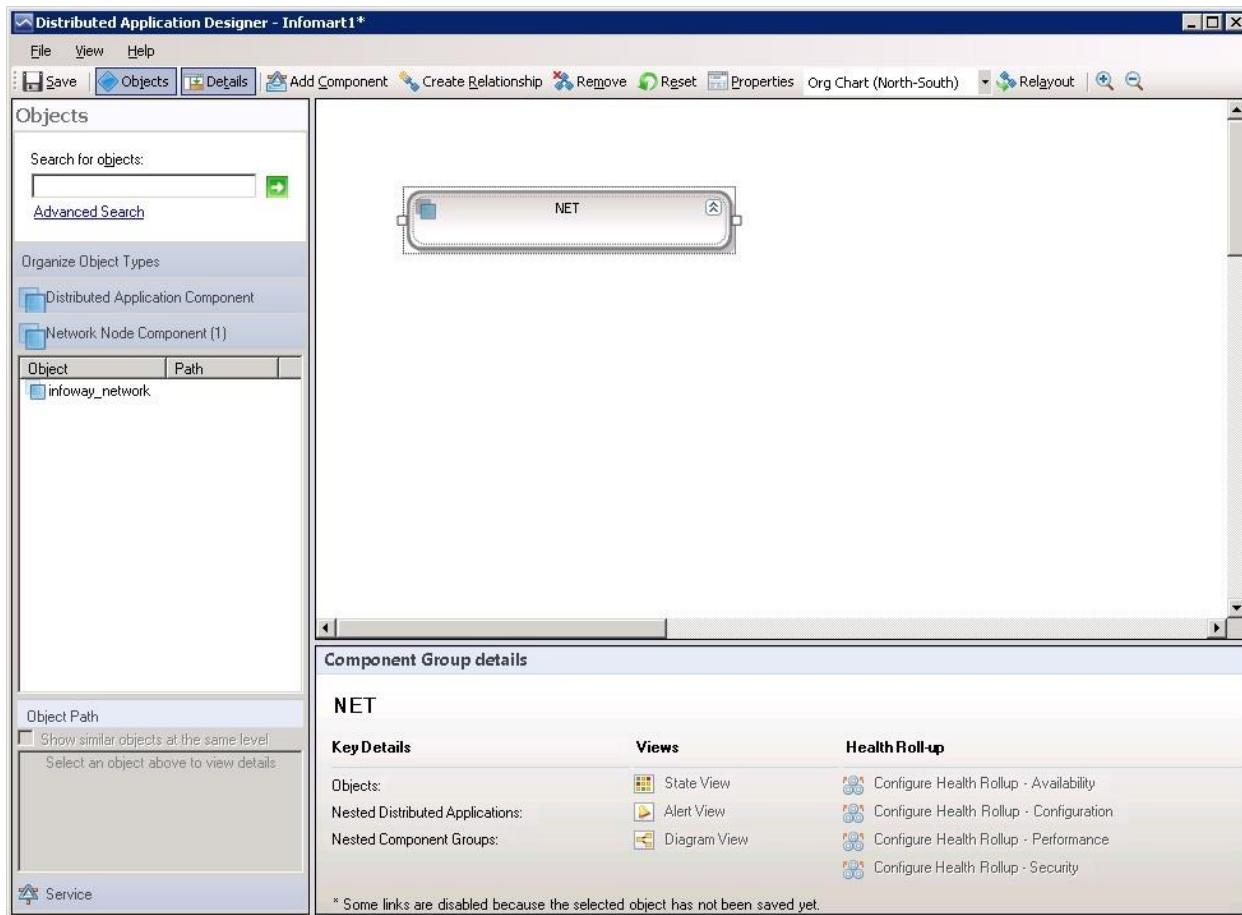
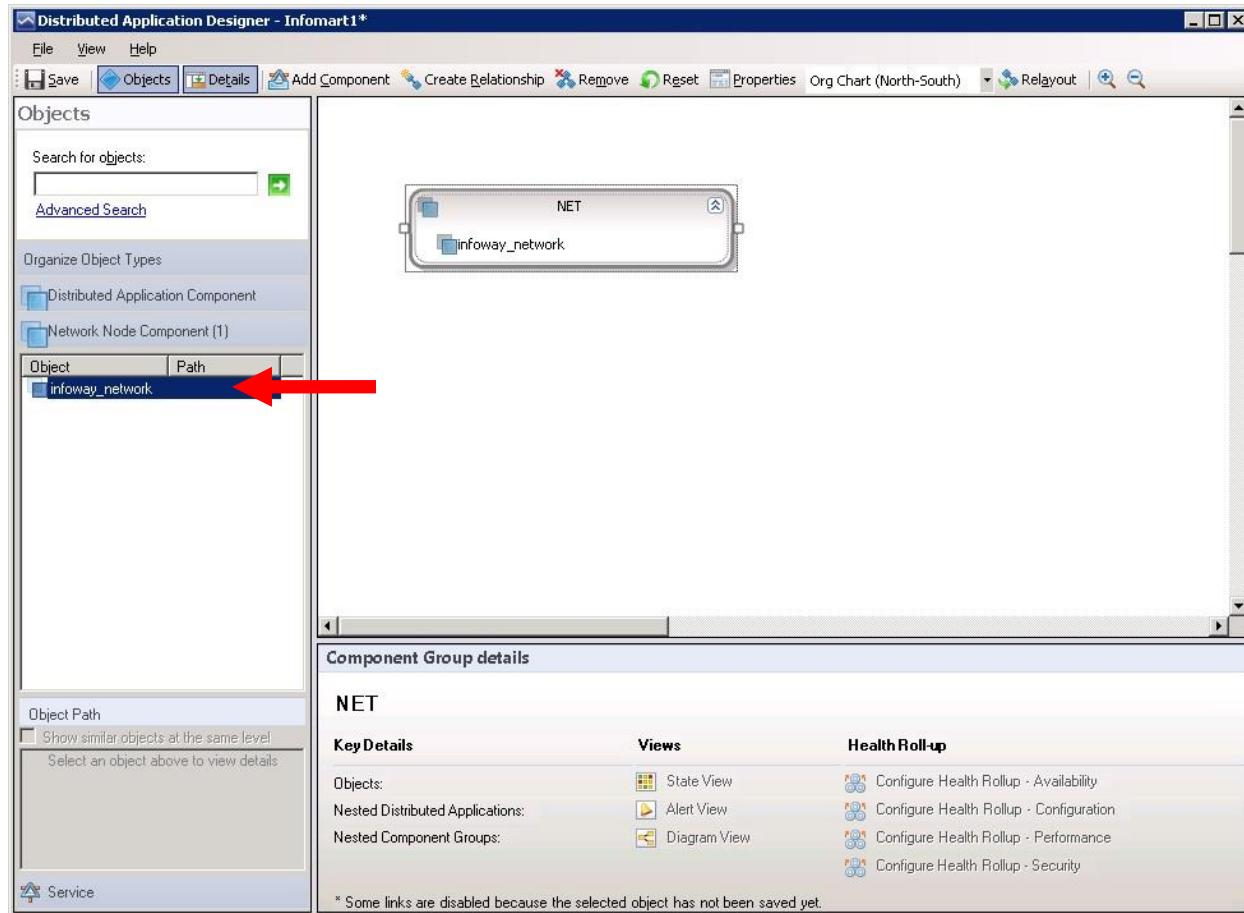
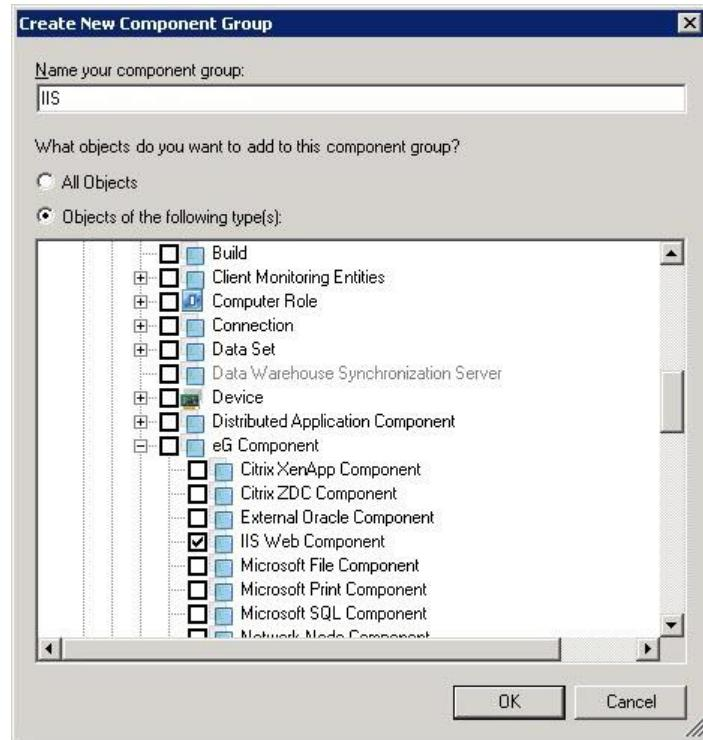

Figure 3.30: The newly added Network Node Component group appearing in the Designer window
Figure 3.31: Adding the *infoway_network* component to the NET component group you created
Figure 3.32: Creating an IIS Web Component group
7. This will invoke Figure 3.30. In the **Distributed Application Designer** window of Figure 3.30, you will find a 'box' representing the new **NET** component group that you just added.
8. Next, click on the **Network Node Component** section in the left panel of Figure 3.30 (as indicated), to view all the eG-managed network nodes. From the list that appears beneath, select the *infoway_network* component, drag it, and drop it into the **NET** box in the right panel (see Figure 3.31).
- With that, the **Network Node Component** group has been created, and the *infoway_network* component has been added to it. The next step is to create the IIS web server component and configure a relationship between the network node and the web server. For this, click on the **Add Component** button in Figure 3.31 again. When the **Create New Component Group** dialog box of Figure 3.32 appears, name the new component group as **IIS**, select the **Object of the following type(s)** option, scroll down the object type list, expand the **eG Component** node, and select the **IIS Web Component** group.